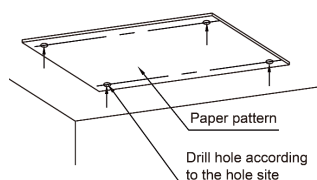
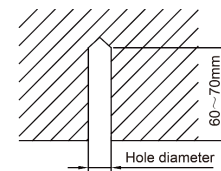

Fig 4.1.2
Fig 4.1.3
- (1) Stick the reference cardboard on the installation position; drill 4 holes according to the hole site on the cardboard as shown in fig 4.1.2; diameter of drilling hole is according to the diameter of expansion bolt and the depth is 60-70mm, as shown in fig 4.1.3.